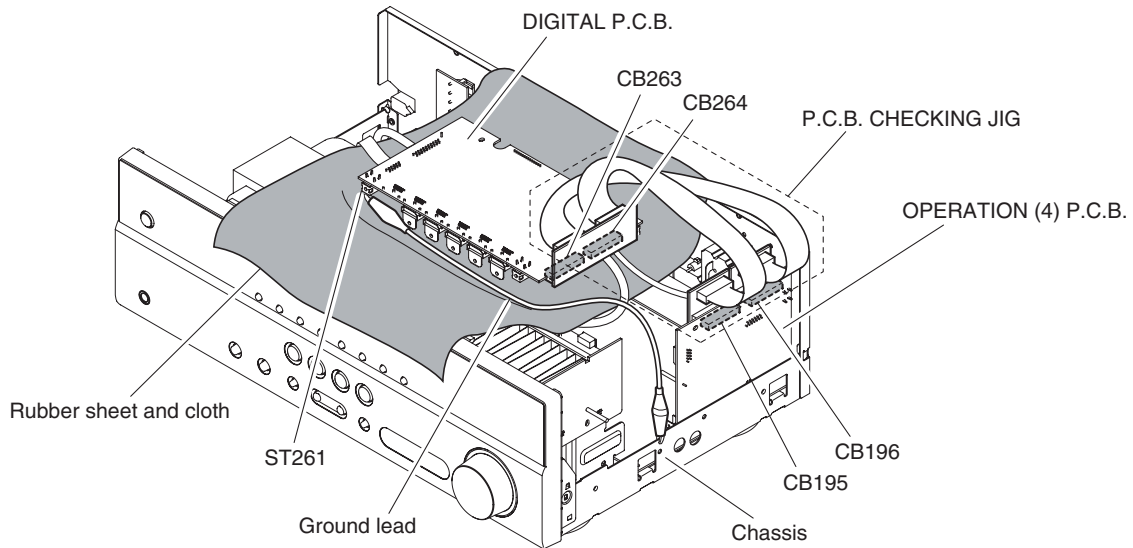

Fig. 4
- Put the rubber sheet and cloth over this unit, and place the DIGITAL P.C.B. on them. (Fig. 4)
- Connect ST261 on DIGITAL P.C.B. to the chassis with a ground lead. (Fig. 4)